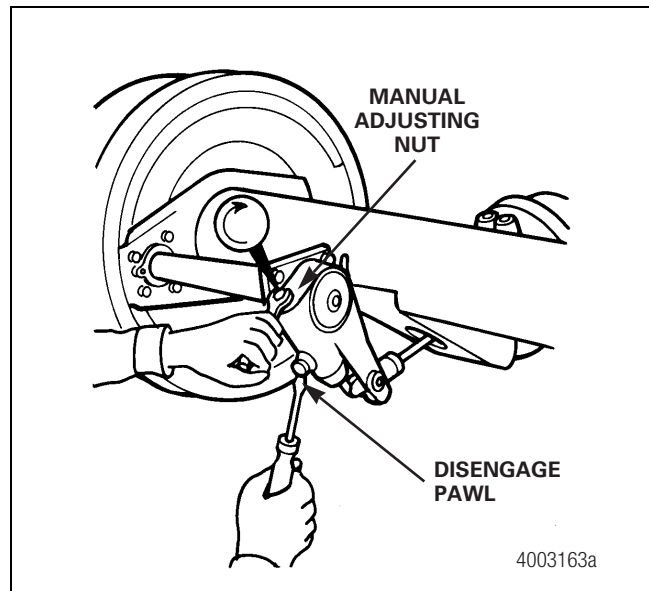

Figure 3.5
- **For a pull pawl:** Pry the pawl at least 1/32-inch (0.794 mm) to disengage the teeth. Figure 3.5.